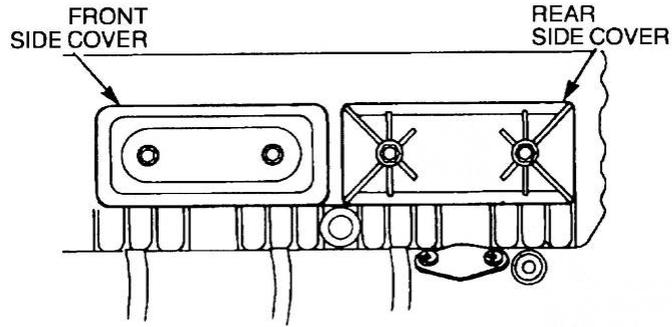

Figure 54 Installation of the Side Cover
- zz. Place new gaskets on the side cover plates (if necessary use a suitable sealant to hold the gaskets in position). Position the cover plates on the engine block ensuring that the plate with the engine breather outlet is positioned to the rear of the engine (Figure 54). Install the retaining bolts and torque them to 16 to 25 N.m (12 to 19 lbf.ft).